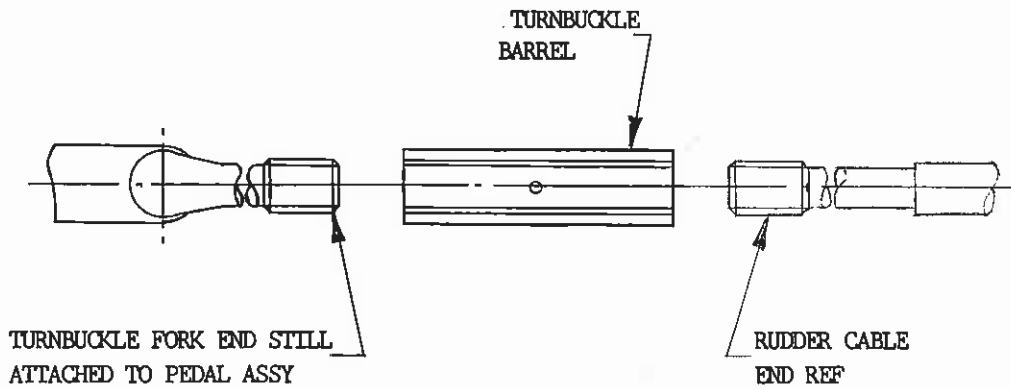

FIG 2
3.2.5 Disconnect turnbuckle barrel from both turnbuckle ends, see Fig. 2.